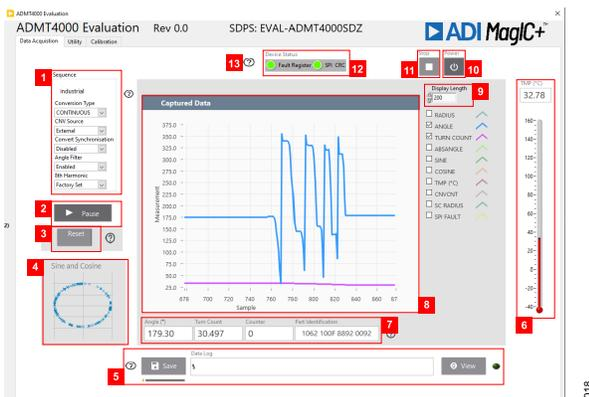

Figure 18. Data Acquisition Tab
The Data Acquisition tab (see Figure 18) displays sensor measurements and gives access to the sensor diagnostics.
Table 10 gives a description of the labels in the Data Acquisition tab, Figure 18.
- ▶ Click **Reset**, Label 3 in Figure 18.
The last **Angle** and **Turn Count** data is displayed in the **Latest Measurement** area of the **Data Acquisition** tab (Label 7 in Figure 18).
The **Captured Data** section (Label 8 in Figure 18) displays a history of the data acquisitions. The tick boxes on the plot legend can control the visibility of data items on the plot. Note that the logged data contains all the data shown in the plot legend irrespective of the state of the check box next to the plot name.
The **Display Length** control (Label 9 in Figure 18) is used to control the number of data points displayed on the **Captured Data** plot.
Click **Power** (Label 10 in Figure 18) to control the power mode of the **ADMT4000**.
Click **Stop** (Label 11 in Figure 18) to stop and quit the GUI.
The following three fault status indicators (Label 13 in Figure 18) within the **Device Status** area display the fault statuses of the latest SPI frame:
There are several **HELP** buttons distributed around the **ADMT4000 Evaluation** GUI, for example, see Label 13 in Figure 18. Help features like this one are designed to aid the user with selected features.